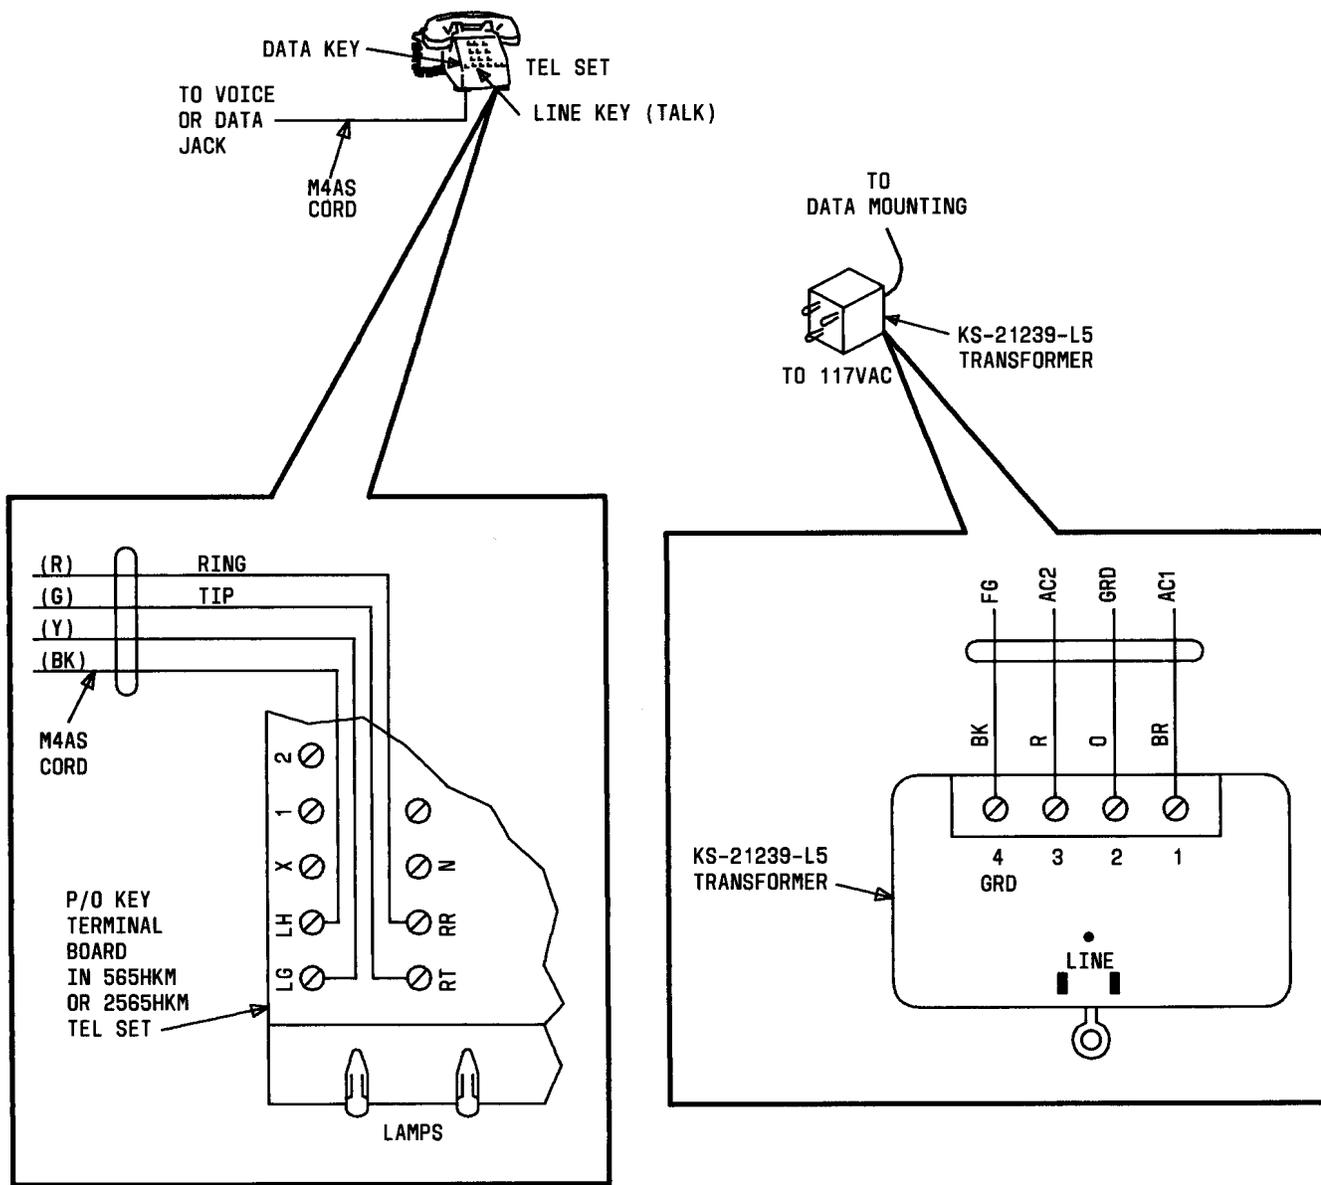

Fig. 5—Details of Key Telephone Set, 107B Loudspeaker Set, KS-21239-L5 Transformer, and 153A Adapter Connections (Sheet 1 of 2)
**6.01** The station arrangements described in this part comply with the FCC registration program and apply only to DS 103JR-L1/2. Section 590-011-202 describes station arrangements using DS 103JR-L1 and 40A3 data mountings. Refer to Fig. 5 for detail drawings of key telephone set, 107B loudspeaker set, KS-21239-L5 transformer, and 153A adapter connections. Refer to Fig. 6 through 13 for connection diagrams of the arrangements. Figures 14 and 15 are provided to aid troubleshooting of the arrangements.